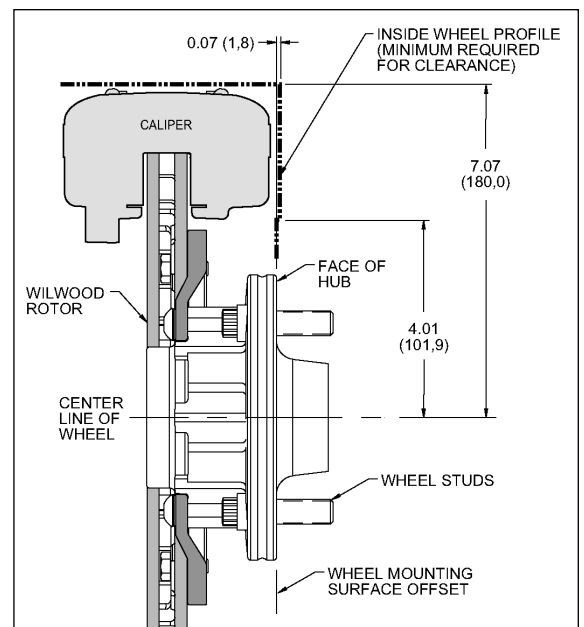

Figure 2. Wheel Clearance Diagram
Before any tear-down or disassembly begins, review the wheel clearance diagram (Figure 2, next page) to verify that there is adequate clearance with the wheels you will be using with this installation.
- Verify wheel clearance utilizing figure 2.